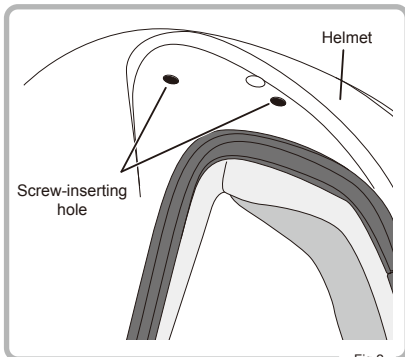

Fig.2
- ② Place the Shield Ratchet in the hollow space on the side of the helmet and align the mounting holes on the shield ratchet with the mounting holes on the helmet (Fig. 2).